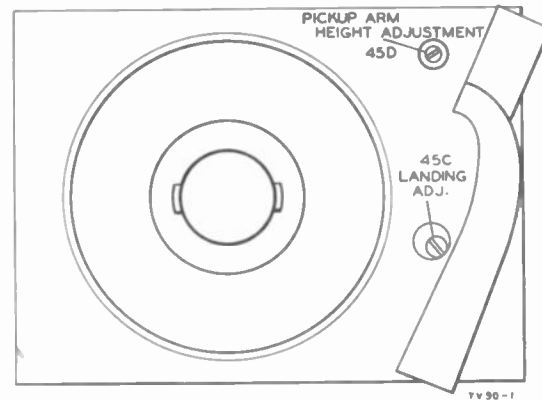

Figure 42—Height and Landing Adjustment Studs.
Set the mechanism in cycle. Turn the turntable by hand, until the pickup arm has reached its maximum height. By means of a screwdriver turn the height adjustment stud (45D) until the distance between the top of the turntable and the sapphire point is $\frac{3}{4}$ ". Use that position of the eccentric stud which causes the pickup arm to rise during clockwise adjustment of the stud. The location of the adjusting stud is illustrated in Figure 42.
1. After the tripping adjustment has been made as described above, turn the eccentric landing adjustment stud (45C) so that the sapphire will set down on the record half-way between the outer edge and the first music groove. This position is $2\frac{5}{8}$ " from the turntable spindle. The location of the adjustment stud is illustrated in Figure 42.